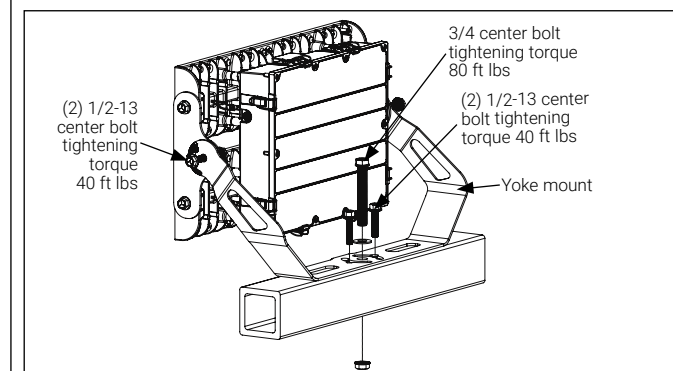
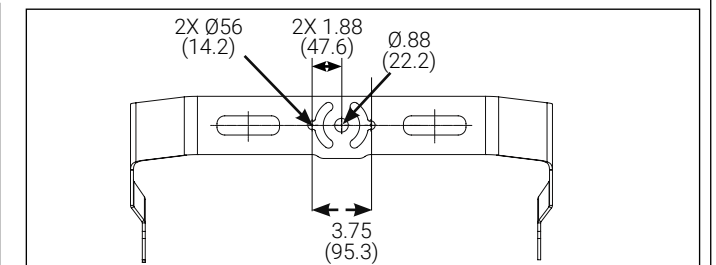

Figure 1.
Figure 2.
Yoke Mounting (Figure 1)
- Mount luminaire to a surface ensuring maximum contact across the bottom surface of the yoke as shown in Figure 1. Use hole pattern provided in Figure 2 to properly align the yoke with center hole and 2x .58 slots with spacing of 3.75 inches.
Note: Do not invert or mount the yoke in any other orientation besides what is shown in figure 1.
- (1) 3/4 bolt with flat washer thru center bolt (long enough to go through the yoke and mounting structure) and (1) 3/4 nut. Torque to 80 ft-lbs.
- Loosen but do not remove the (2) center bolts (Fig 1).
- (1) 3/4 bolt with flat washer thru center bolt (long enough to go through the yoke and mounting structure) and (1) 3/4 nut. Torque to 80 ft lb.